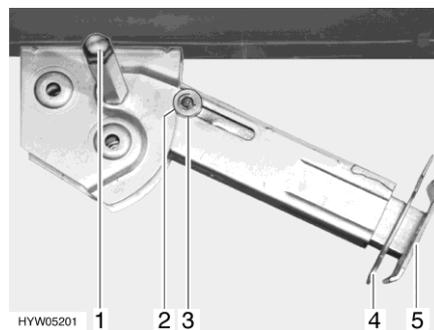

Fig. 41 Steady leg
- Place the socket spanner on the hexagon nut (Fig. 41,1) and rotate until the steady leg is in a perpendicular downward position.
- Remove the splint (Fig. 41,4) out of the support foot extension (Fig. 41,5).
- Place the socket spanner on the hexagon nut (Fig. 41,1) and rotate until the steady leg is clear of the ground.
- Push in the support foot extension (Fig. 41,5) and insert the splint (Fig. 41,4) in the drilled hole in the support foot extension.
- Rotate the hexagonal nut (Fig. 41,1) with the socket spanner until the steady leg has swung upwards and the guide disc (Fig. 41,3) has completely retracted into the notch (Fig. 41,2).